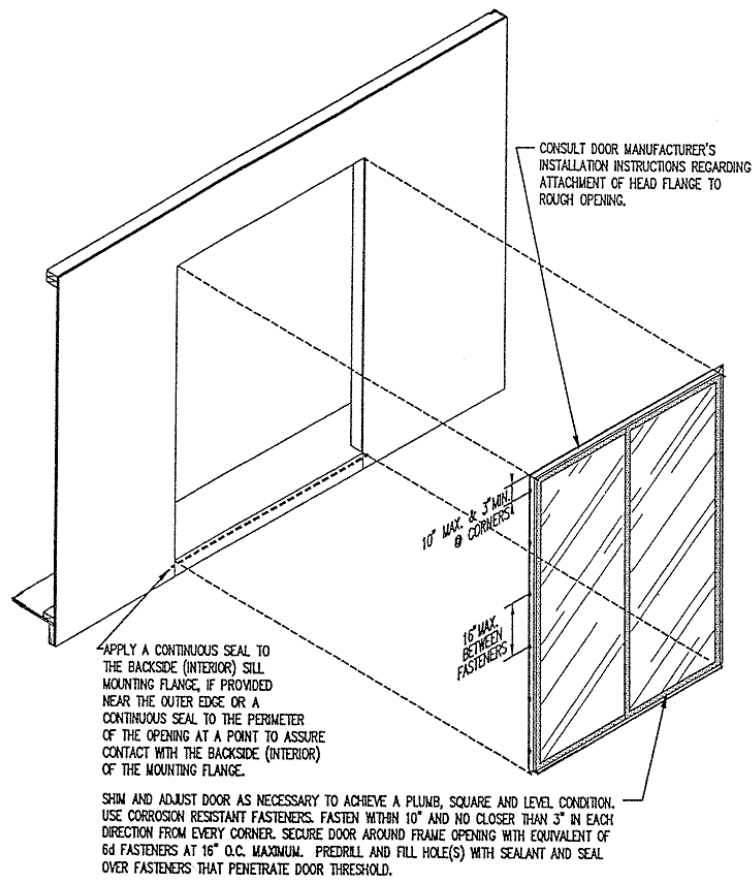

Fig. 4a. Door Installation (Method 'A')
5.4.1.1.3 Apply a continuous seal to the backside (interior) of the sill mounting flange, if provided, near the outer edge or a continuous seal to the perimeter of the opening at a point to assure contact with the backside (interior) of the mounting flange (See Figure 4a). The door shall then be installed in accordance with Section 5.5 installation.
5.5.6 In each direction from all corners there must be a fastener within 10 inches, but no closer than 3 inches, to prevent frame distortion or fracture of joint seals (See Figure 4a for Method A, 5b for Method B).